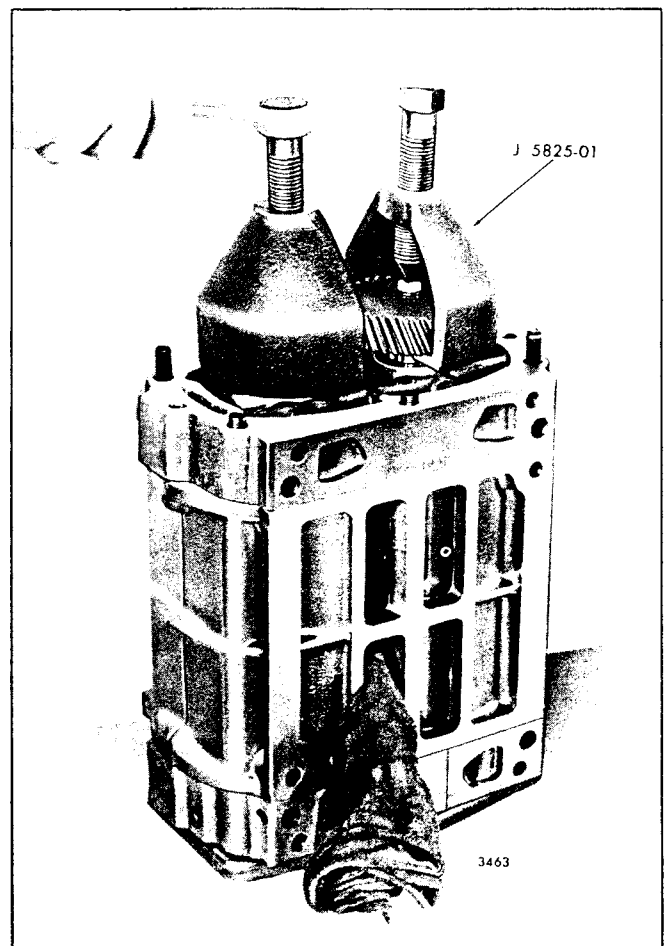

Fig. 5 - Removing Blower Rotor Gears
- With the pullers in place under the gears (Fig. 5), place a brass bar, approximately 1" long and 5/8" diameter, between the point of each puller bolt and blower rotor shaft.